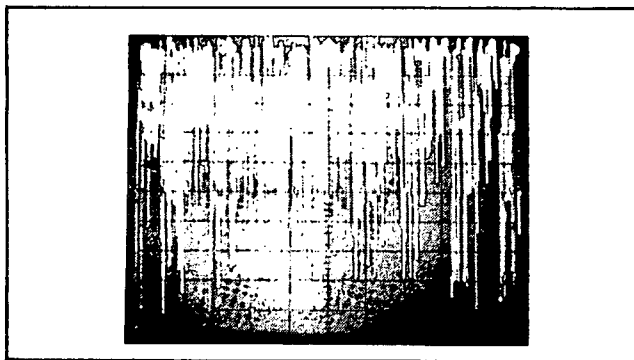

Figure 3-34. Typical Turn On Display.
- e. Set the POWER switch to the ON (AC) position. The POWER light will illuminate.
- f. Allow approximately 15 seconds for the CRT to warm up. Adjust the INTENSITY and FOCUS controls for a bright, clear presentation on the CRT. When the instrument is initially turned on, the display may be similar to the one shown in Figure 3-34. This display reflects the preferred states of the storage elements in the digital memory and is not meaningful. To clear the display, press the CLEAR WRITE button.
- c. Allow approximately 15 seconds for the CRT to warm up. Adjust the INTENSITY and FOCUS controls for a bright, clear presentation on the CRT. When the instrument is initially turned on, the display may be similar to the one shown in Figure 3-34. This display reflects the preferred states of the storage elements in the digital memory and is not meaningful. To clear the display, press the CLEAR WRITE button.